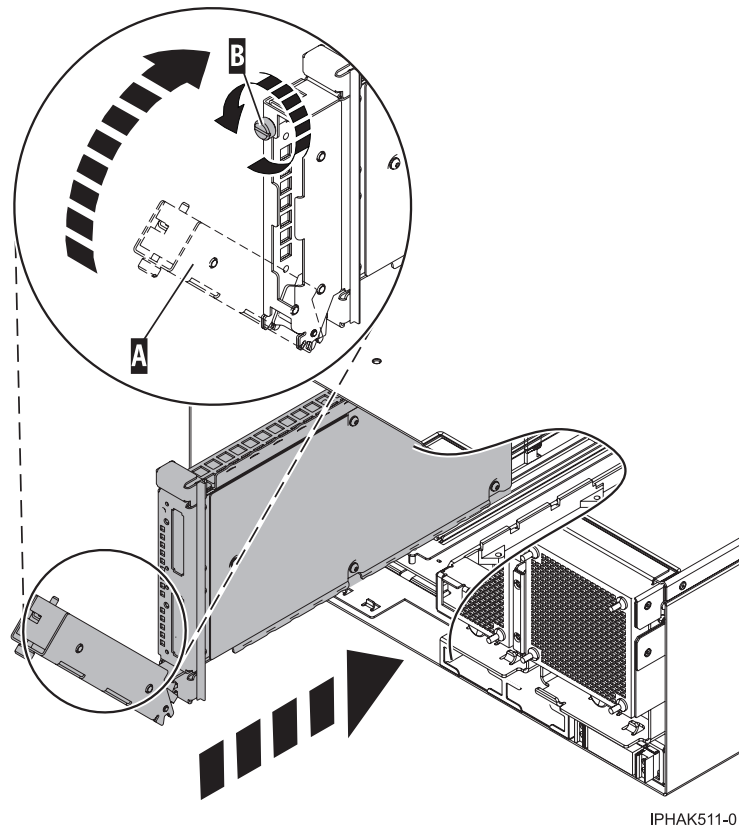

Figure 16. Adapter replacement in the system
5. Push the handle **(A)**, shown in Figure 16 on page 27, up and toward the system until the handle stops against the adapter.